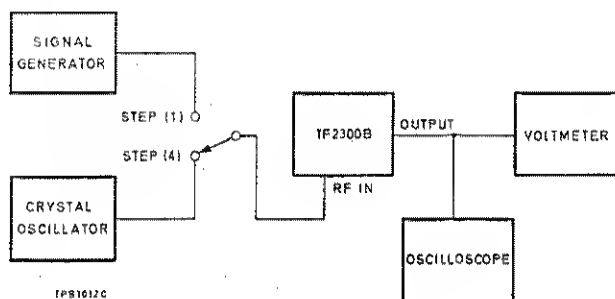

Fig. 4.4 FM noise measurement
- (1) Apply an f.m. input with 5 kHz deviation from the signal generator. Connect the oscilloscope and voltmeter to the OUTPUT socket as shown in Fig. 4.4.